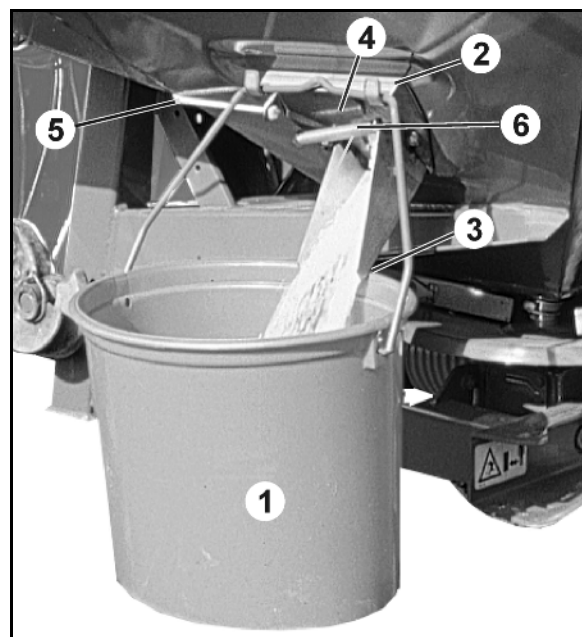

Fig. 68
3. You can obtain the required calibration distance (41.6 m) for the desired working width (12 m) from the chart (Fig. 68) of the nomogram or the rear side of the calculator disc rule.